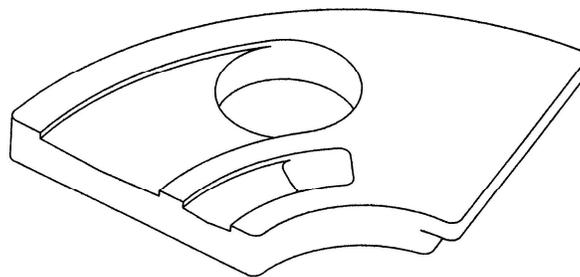

FIGURE 16
1. Watch the condition of the wear pad and plate – replace the pad as soon as grooves develop as in Figure 16. Once the wear pad develops a groove, sand particles will continually blow and drag through this groove, wearing the plate.